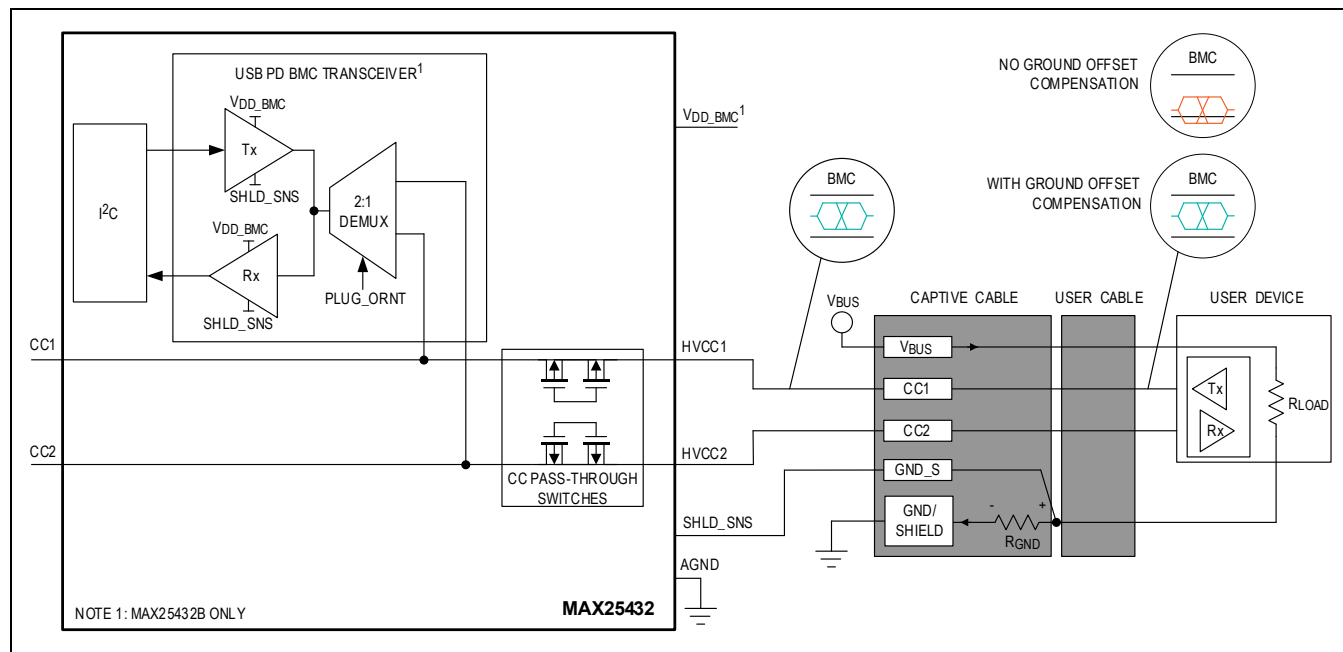

Figure 6. USB PD PHY Ground Offset Compensation
**Note:** The MAX25432B meets the BMC eye diagram specifications as defined in the USB Power Delivery Specification. The MAX25432B's BMC driver is referenced to the SHLD\_SNS pin and therefore BMC communication is not affected by the IR drop caused by the external shield short-to-battery FET, if used. A Type-C captive cable with dedicated ground sense allows compensation for ground offset during charging as pictured in Figure 6.